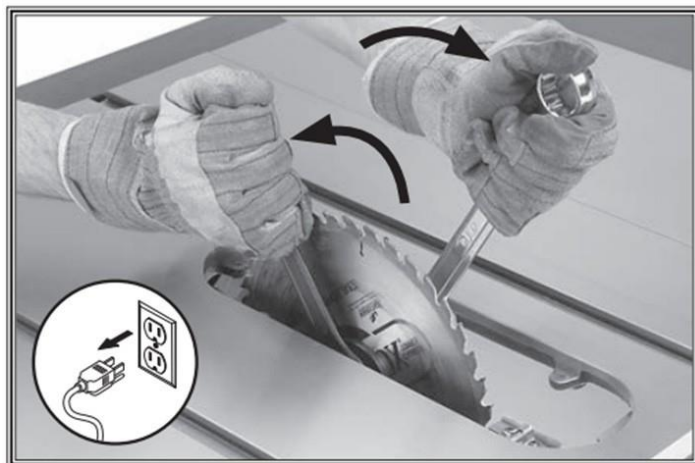

Figure 32: Removing the blade.
- 3 - Use the wrenches included in your tool kit for the saw to loosen and remove the arbor nut, flange, and blade (see figure 32). The arbor nut has right-hand threads; turn counterclockwise to loosen.